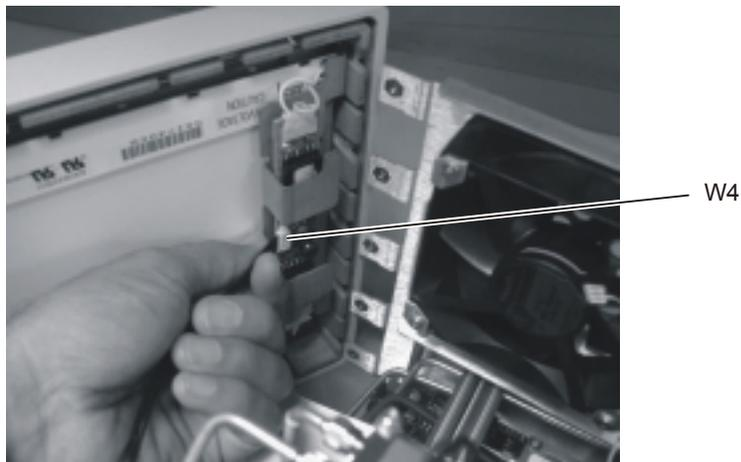

Figure 4-12. Disconnecting the W4 Cable from the A3 Backlight Inverter Board
- 8 Disconnect the W4 cable from the A3 Backlight Inverter board, as shown in Figure 4-12.